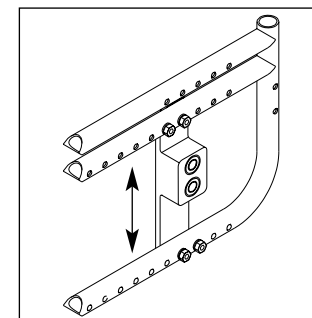

Fig. 12a
2. Seat Height - Zippie GS Only (Fig. 12a)
On the Zippie GS, adjust seat height by moving the rear axle sleeve up or down in the axle plate. 1.25" adjustment possible (Fig 12a).